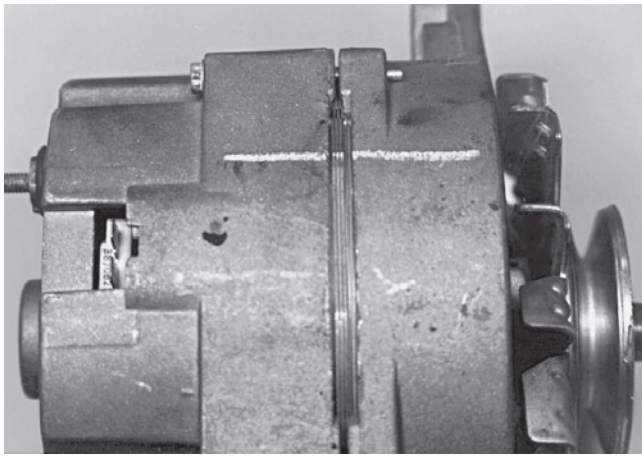

FIGURE 20-14 Always mark the case of the alternator before disassembly to be assured of correct reassembly.
- STEP 1** Mark the case with a scratch or with chalk to ensure proper reassembly of the alternator case. ● **SEE FIGURE 20-14.**